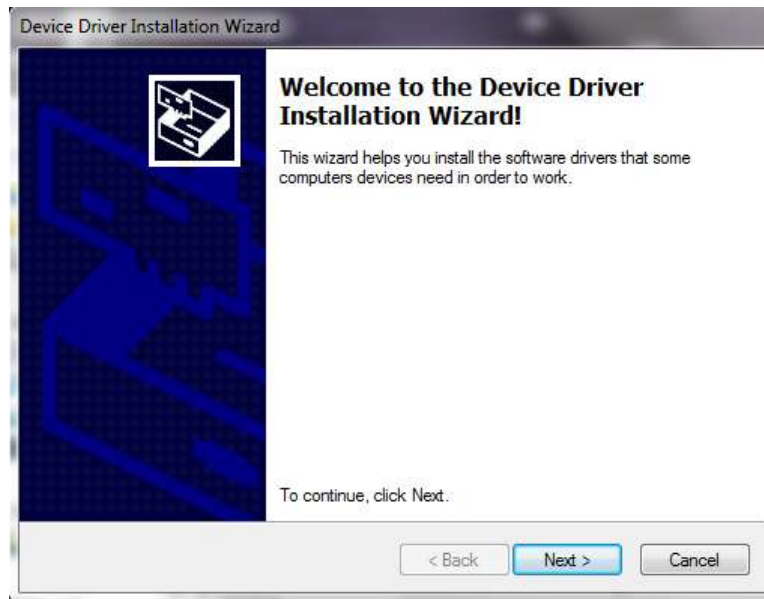

Figure 3. The Device Driver installer.
8. The driver installation is launched (Figure 3).